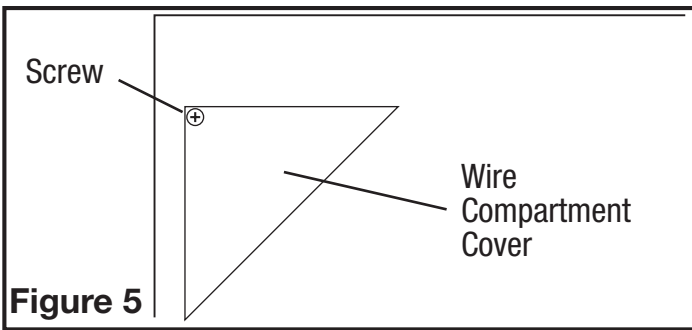

Figure 5
- External Wire Compartment: Remove the wire compartment cover screw and place cover in a secure place (Figure 5).